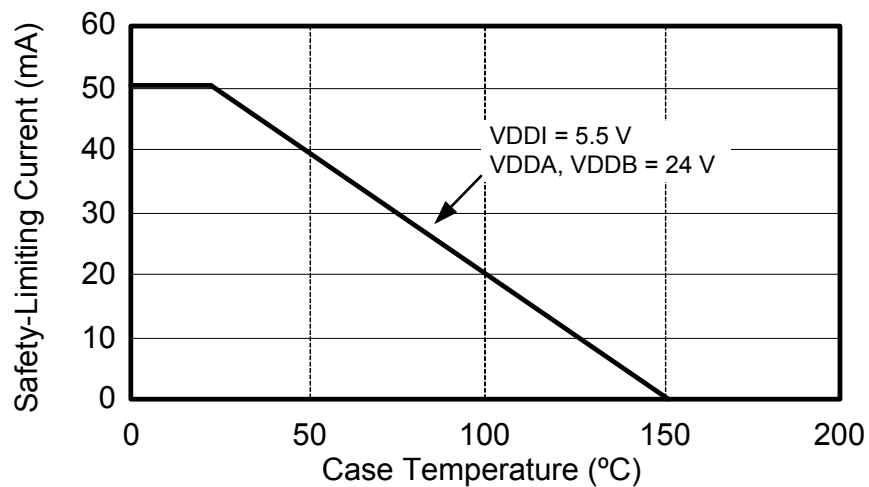

Figure 4. NB SOIC-16, Thermal Derating Curve, Dependence of Safety Limiting Values with Case Temperature per DIN EN 60747-5-2
1. Maximum value allowed in the event of a failure. Refer to the thermal derating curve in Figure 4.